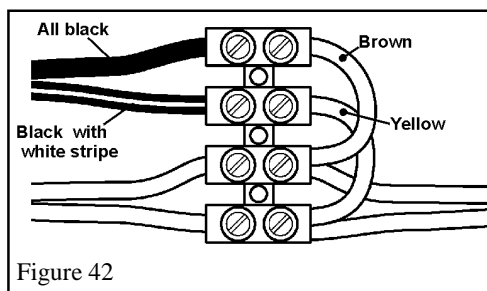

Figure 42
3. Securely connect the wires to the terminal block. Connect the black wire to the terminal opposite the brown wire. Connect the wire with the white stripe to the terminal opposite the yellow wire. See figure 42.